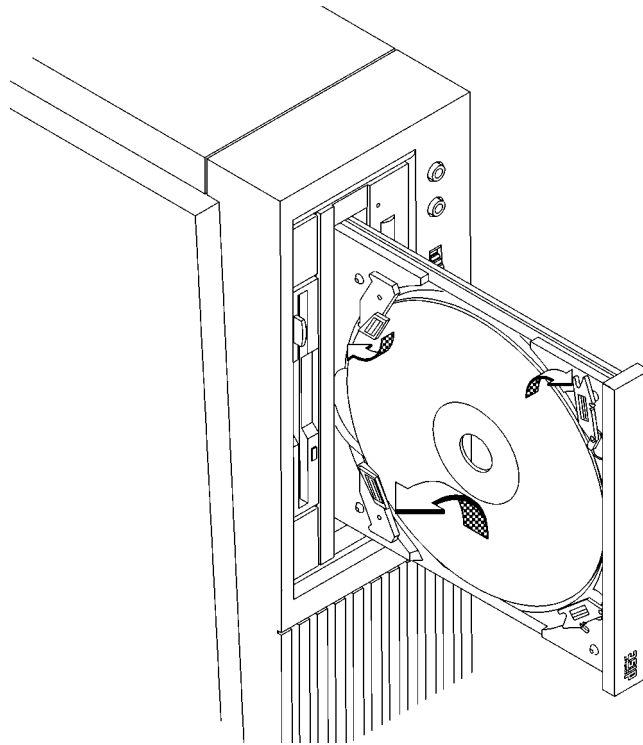

Figure 9 Removing a CD-ROM Disc From a Vertically Mounted Drive
- 2 Press down gently against the spring tension of disc holders A and B and swing the top of the disc away from disc holders C and D as shown in Figure 9.